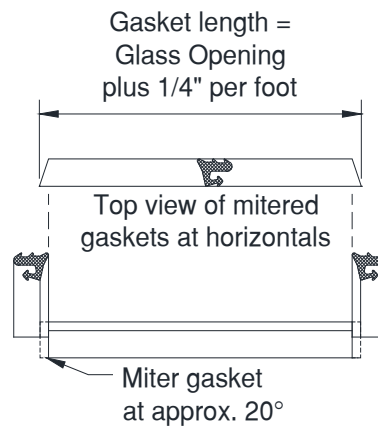

Figure 39: Gasket Cut Guide
13.2.2 Miter the horizontal Gaskets per Figure 39.